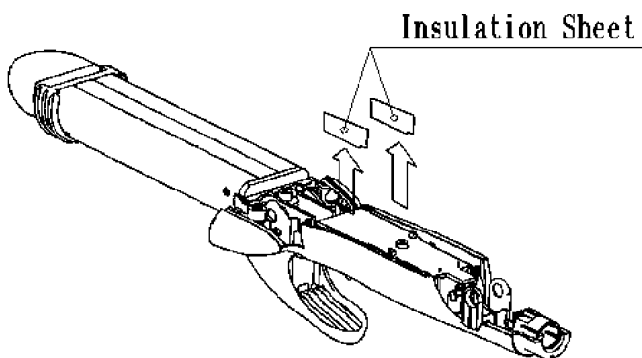

Figure 7
3. Take off Insulation sheet(2 pieces) from slot of Steam pipe holder A as shown in Figure 7.